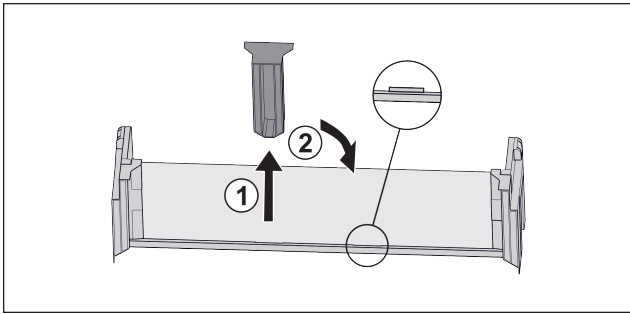

Fig. 87
- ▶ Pull off the middle holder Fig. 87 (1).
- ▶ Insert the middle holder in the second position Fig. 87 (2).